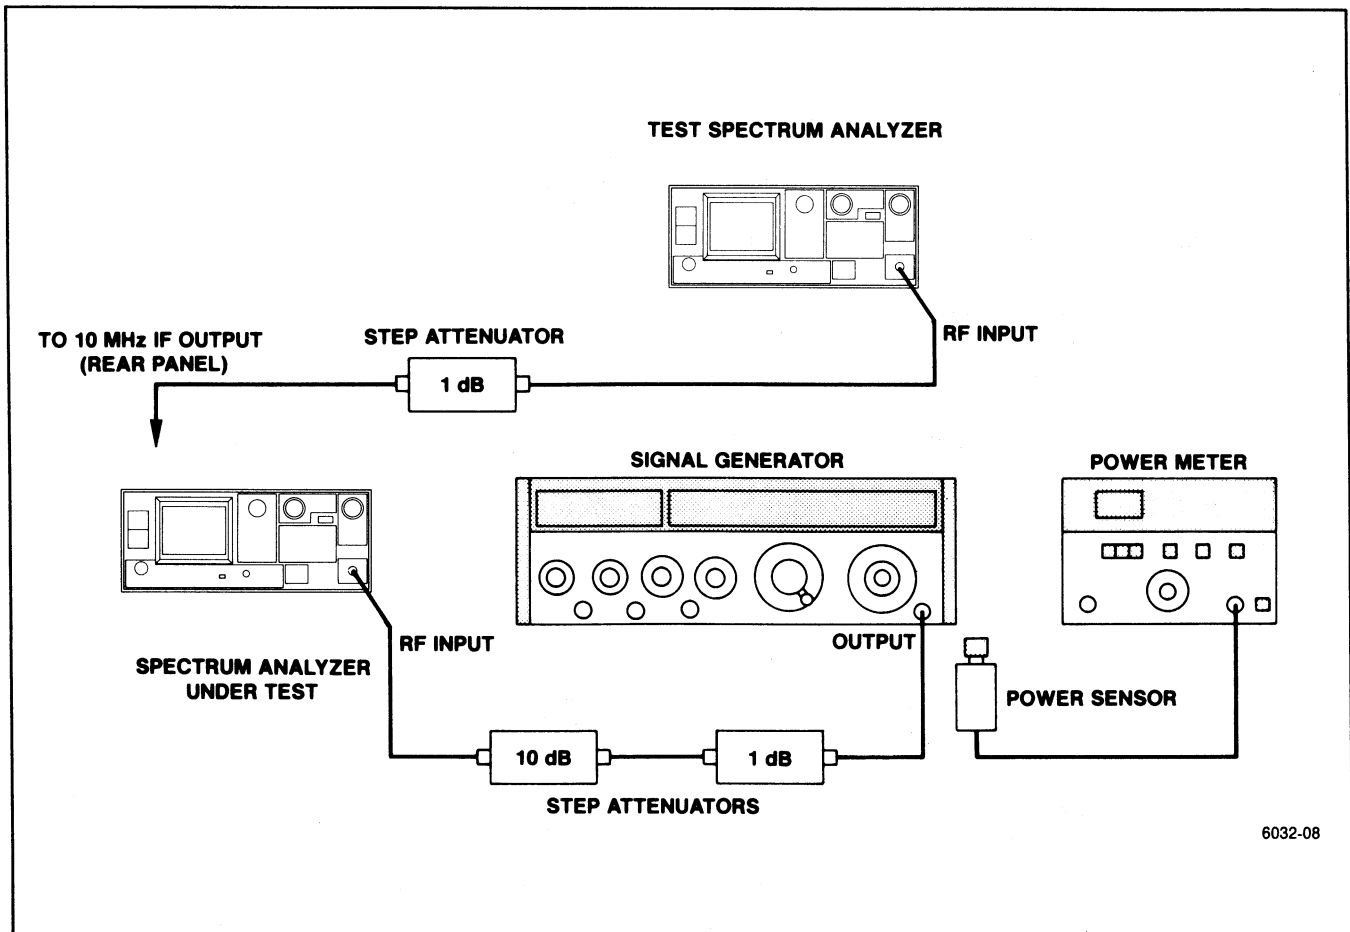

Figure 4-18. Test equipment setup for checking 1 dB input compression point.
b. Connect the test equipment as shown in Figure 4-18, using the generator with the calibrated output level. Set the Spectrum Analyzer controls as follows: